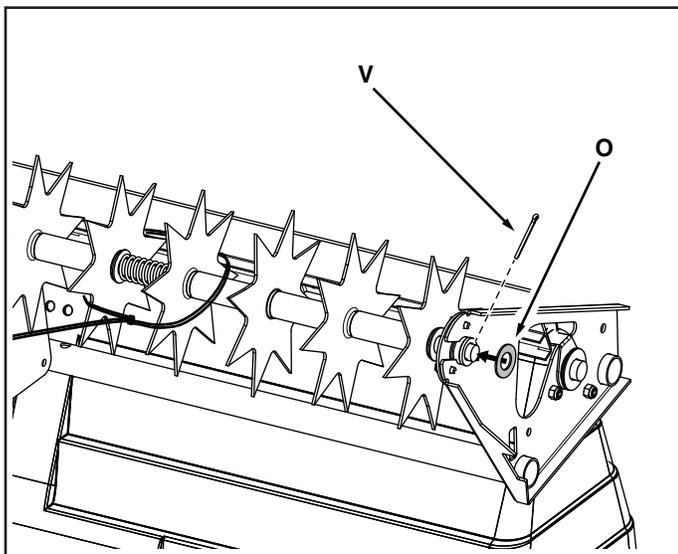

FIGURE 14
18. Slide the axle on through the end of the spreader frame. You may need to straighten the spike disks that are strapped together to allow the axle to slide freely. See figure 14.
19. Assemble a 5/8" washer (O) onto the end of the axle. See figure 14.
20. Assemble a cotter pin (V) into the end of the axle and then spread the ends of the cotter pin. See figure 14.